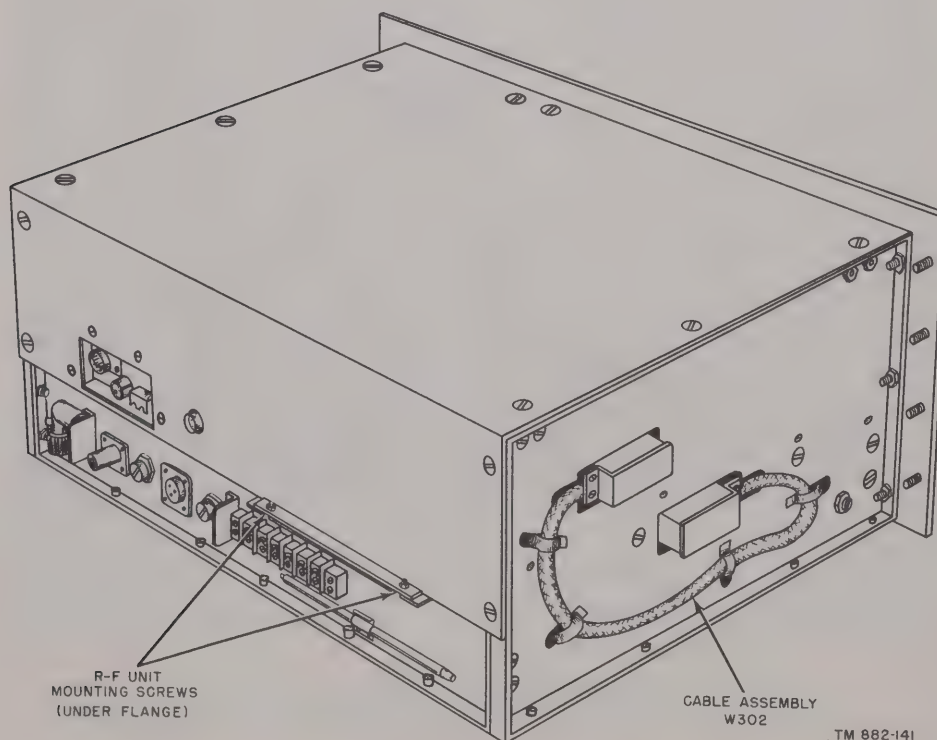

Figure 16. Radio Receiver R-220/URR, showing dust cover removal.
c. Removal of Dust Cover (fig. 16). A dust cover is fastened by means of 16 screws to the top and rear of the receiver. Access can be had to the alining tool and wrenches and to all controls and jacks at the rear of the receiver, while this dust cover is in place. The dust cover and base plate must be removed, however, before the power supply or the r-f unit can be withdrawn from the main unit. To remove the dust cover, release the eight screws which fasten it to the top of the main unit, the four screws which fasten it to the rear of the main unit, and the four screws which fasten it to the rear of the power supply unit. With the dust cover removed, access is also had to the rectifier tube and to the antenna adapter. To remove the base plate, release the eighteen screws which hold the base plate to the bottom of the main unit.
- (2) Remove the four front-panel screws which hold the r-f unit in place (fig. 18). Remove the two mounting screws at the rear of the r-f unit (fig. 16).
- (3) Disengage the interconnecting cable assembly, W302, from the r-f unit (fig. 16).
- (4) Free the coax cable from the r-f unit, drawing it down through the opening in the main unit.